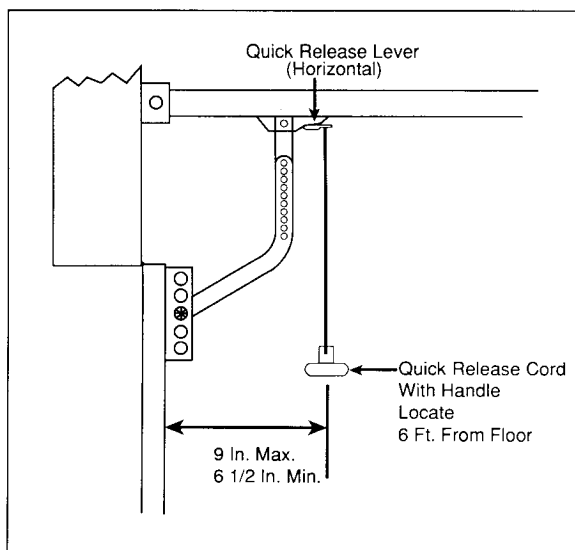

Figure 21
Step 40: Connect the two free ends of the door-arm assembly by rotating the curved section upward to the straight section so that two holes in each section can be matched (see Figure 21).
Step 41: Attach pull cord to quick-release lever on trolley bottom as shown in Figure 21. The red handle should be 6' above the garage floor.
The quick-release lever (with pullcord attached) must be in the horizontal position (up) (see figure 21). If the quick-release (disconnect) lever is in the vertical position (down), the trolley bottom will not engage the "traveler" that rides the screw drive and the door will not move.
Step 42: Return Quick Release Lever to horizontal position (see Figure 21). Raise the door manually until the quick-release mechanism in the trolley bottom engages the traveler on the screw drive. Note: If it is difficult to raise the door, pull the door arm toward the operator head (away from the door) while lifting the door. When the trolley bottom engages the traveler, it will snap together audibly, lock into position, and cease to move.